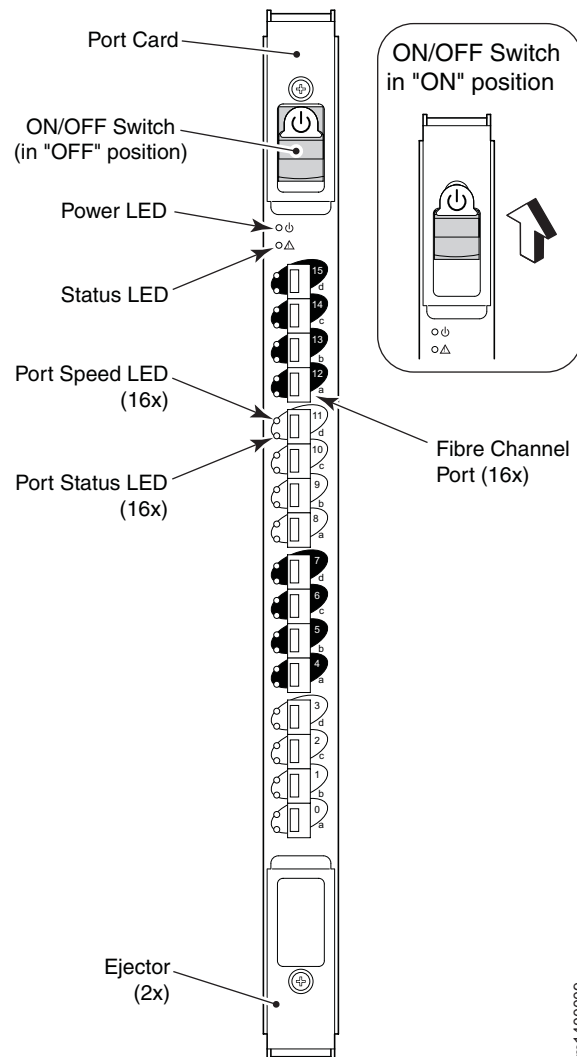

Figure 14. ON/OFF Switch for a 16-Port Card
1. Verify that the ON/OFF switches for each 16-port card and CP card are in the on position (see Figure 14)
Note: The ON/OFF switch for CP cards is identical to the ON/OFF switch on the 16-port card shown in Figure 14)